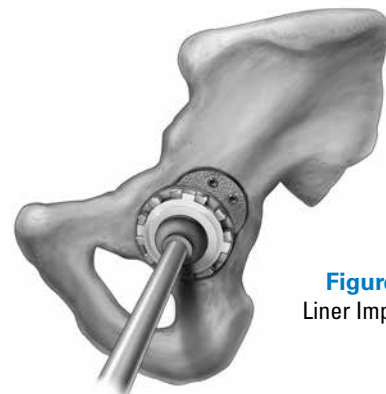

Figure 10
15. Follow the trailing and liner insertion technique as shown in the Crown Cup Operative Technique (Lit # 711-65-30) (*Figure 10*).